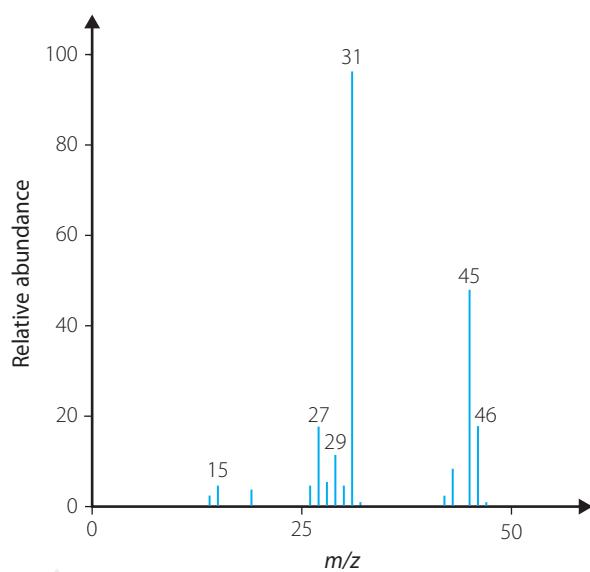
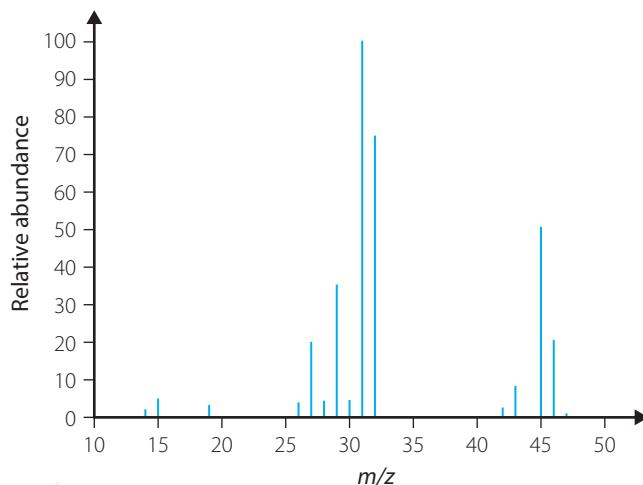

FIGURE 15.8 Mass spectrum of ethanol
FIGURE 15.10 Mass spectrum of contaminated sample
- 7 Figure 15.8 shows the mass spectrum of ethanol.
▶ 9 There was concern at a bioethanol plant that the ethanol had become contaminated with methanol. To check this, a chemist tested a sample and obtained the following mass spectrum for the sample (Figure 15.10). Compare the spectrum of the contaminated sample with that of ethanol in Figure 15.8.